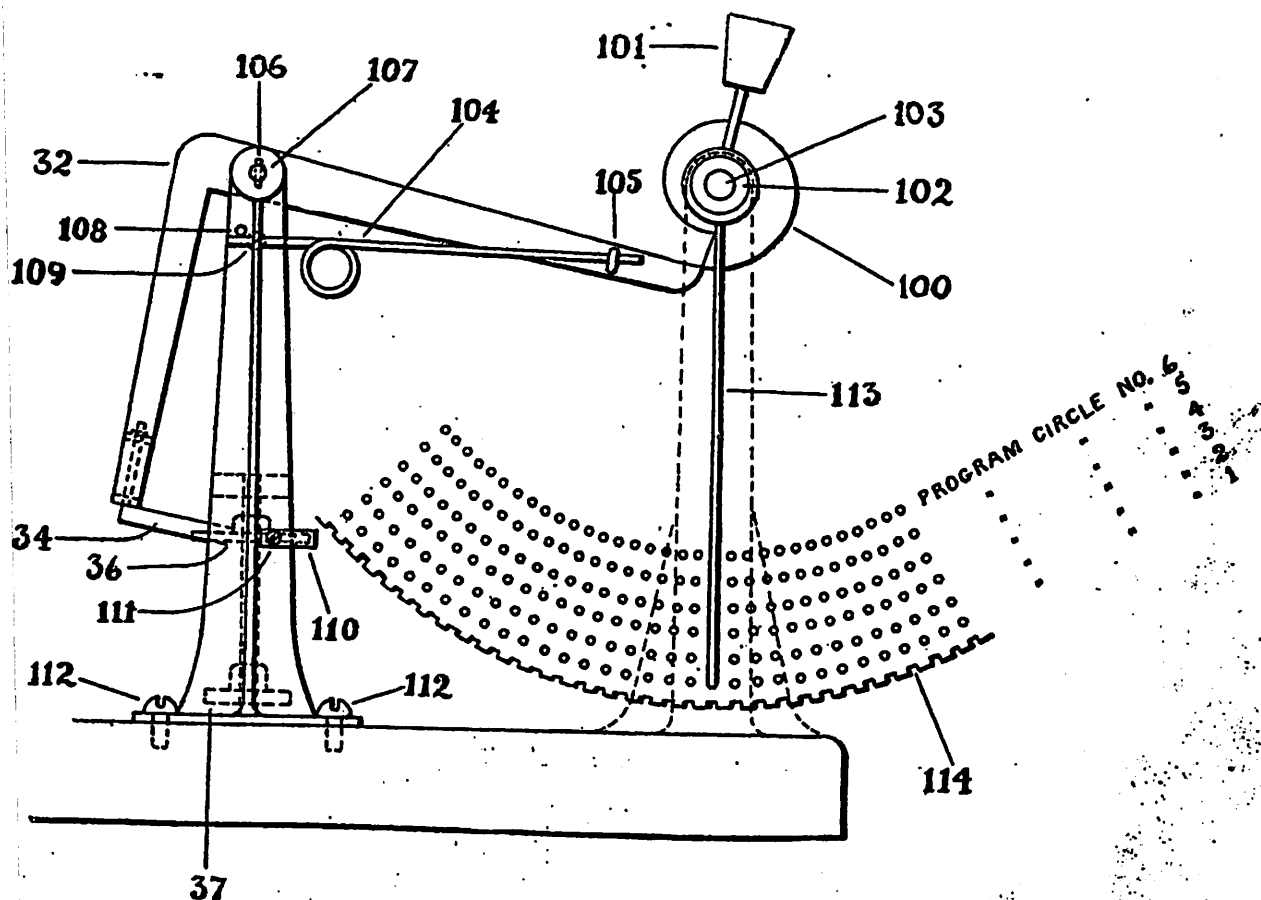
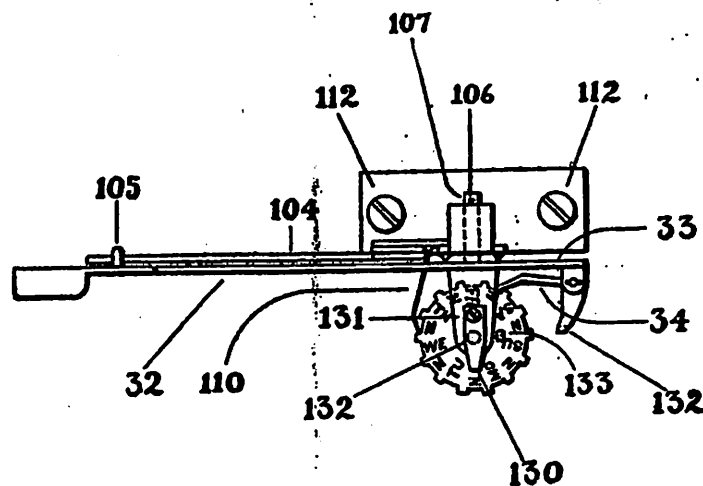

Fig. 2
Fig. 3
2. The outer or largest circle is No. 1, the next one No. 2 and so on. See Fig. 2.
1. Place your finger against front edge of indexed ratchet wheel and turn it from left to right until the pointer 130 Fig. 3, stands at the index of the day or night on which you are setting it. If you set it between 6 a. m. and 6 p. m. Monday, set to "Mo"; if after 6 p. m. Monday set to the "N" following "Mo" and so on.
2. When setting the automatic cut-out be sure that the spring dog 110, Figs. 2 and 3, is just back of a tooth as shown in Fig. 3. This is important.
2. When setting the automatic calendar-switch be sure that the spring dog 110, Figs. 2 and 3 is just back of a tooth as shown in Fig. 3. This is important.
The automatic calendar switch is the same as shown in Figs. 3 and 5, except that the hard rubber switch drum is larger in diameter and each circle
The cam 100, Figs. 1 and 2, revolves once each twelve hours and operates switch arm 32, which carries at its lower end the pawl 34 which engages indexed ratchet wheel 36, Figs. 1, 2, 3, 4 and 5, turning ratchet 1-14th of a turn at each movement. Spring 104, Fig. 2, supplies the power to move switch arm 32. When switch arm 32 is released by cam 100 and pawl 34 turns indexed ratchet wheel one tooth the stop lug 132, Fig. 3, must move into path of a tooth of ratchet wheel 36 and prevent it from moving more than one tooth. The spring pawl 110 must also be in position shown in Fig. 3 on completion of movement.